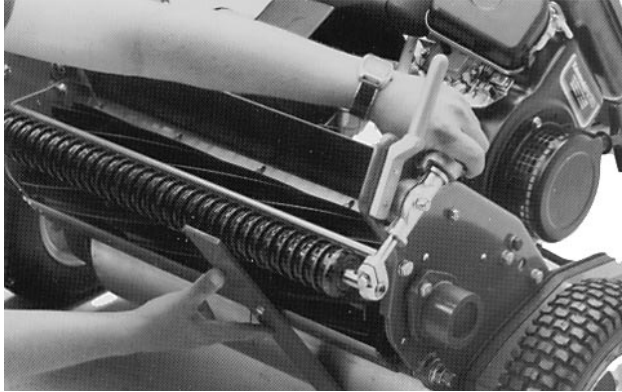

Fig. 8
4. Hook the screw head on the cutting edge of the bedknife and rest the rear end of the bar on the rear roller (Fig. 8).